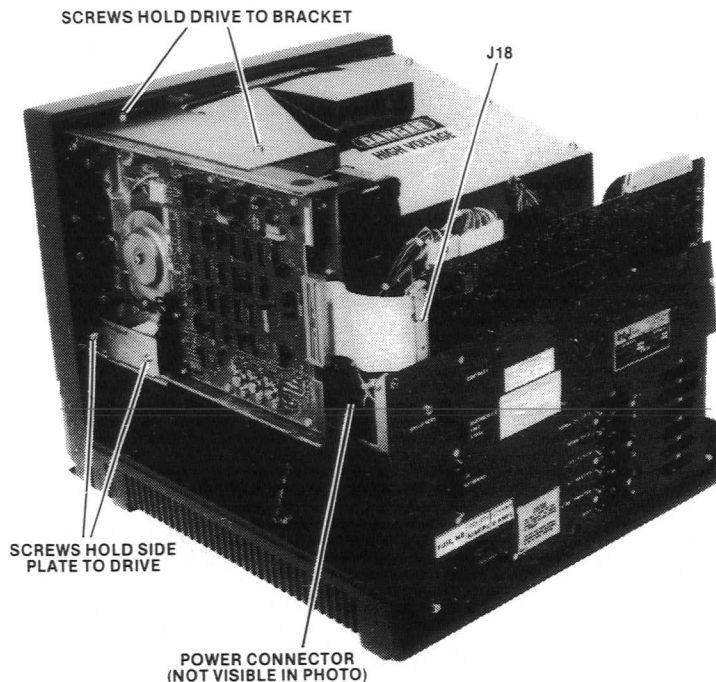

Figure F-1. Integral Drive Removal
- Referring to figure F-1, remove the two screws securing drive to top mounting bracket, and remove the two screws securing side retainer plate to drive.